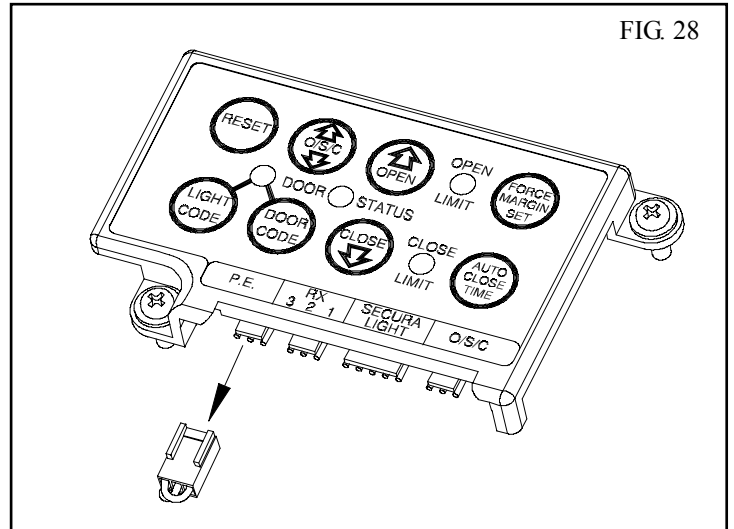
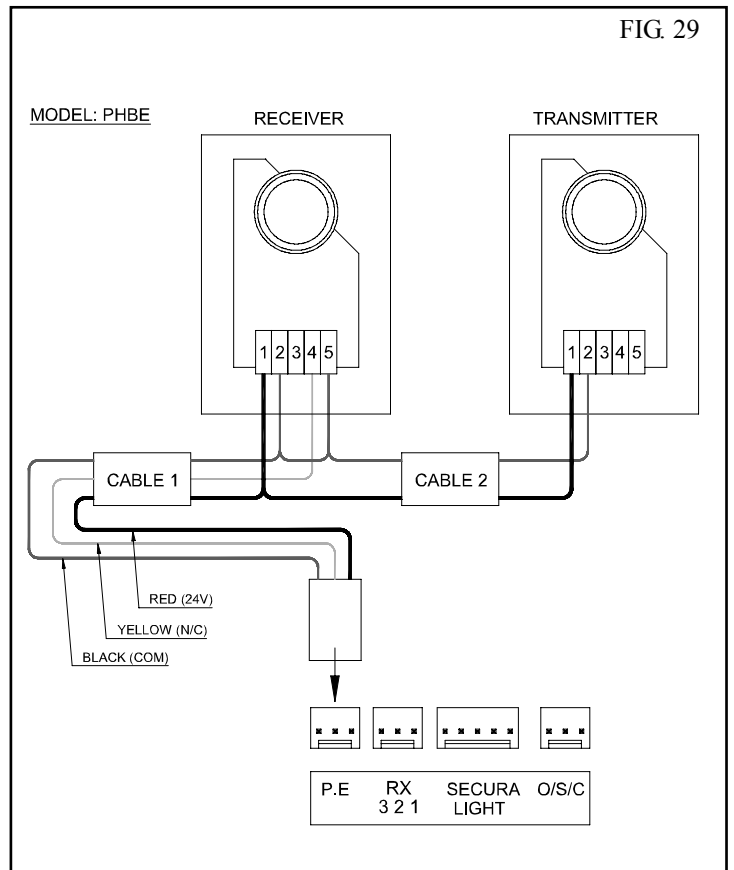

FIG. 28
FIG. 29
Locate the Photo Electric Beam (P.E.) normally closed contact type in a strategic location within doorway. We recommend 150mm above the floor level and as close as possible to the door opening, inside the garage. Remove shunt from P.E. connector (Fig. 28) and connect the plug from the P.E. wiring harness to P.E. connector (Fig. 29). The wiring diagram is for Model PHBE (Order Code 062153).
1. Press and hold the Auto Close Time button (Fig. 28).
2. While holding the Auto Close Time button, press the Open button (Fig. 28). Each press of this button will add five seconds to the auto close delay time.
4. Press the O/S/C button (Fig. 28) or transmitter to open the door. When the door is fully opened the Open Limit green LED will flash to indicate that the auto close mode is in operation.